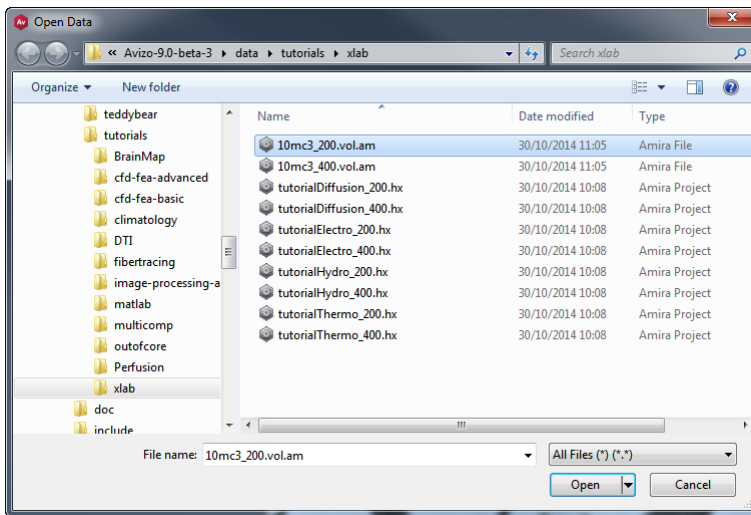

Figure 14.3: *Open Data...* dialog to load the data set of this tutorial. Choose the path to the data set, then select and open it.
- Open the `data/tutorials/xlab/10mc3_200.vol.am` file from `AVIZO_ROOT` directory (see Figure 14.3).